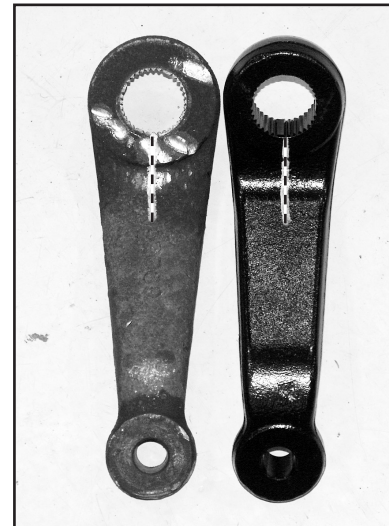

Fig 2
4. Transfer the alignment mark on the OE pitman arm to the corresponding position on the new pitman arm (Fig 2).